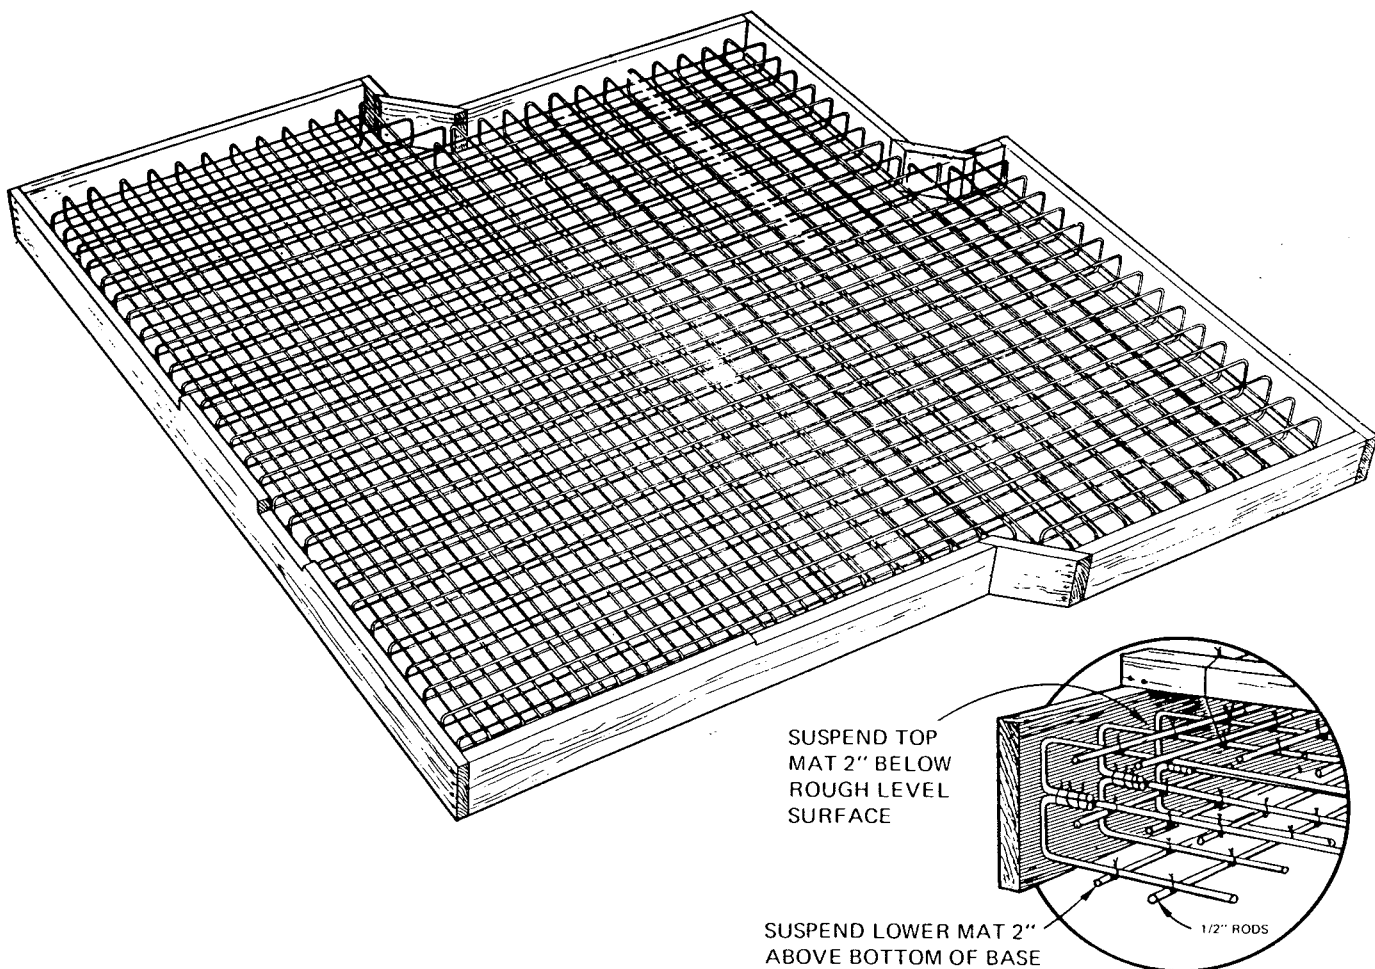
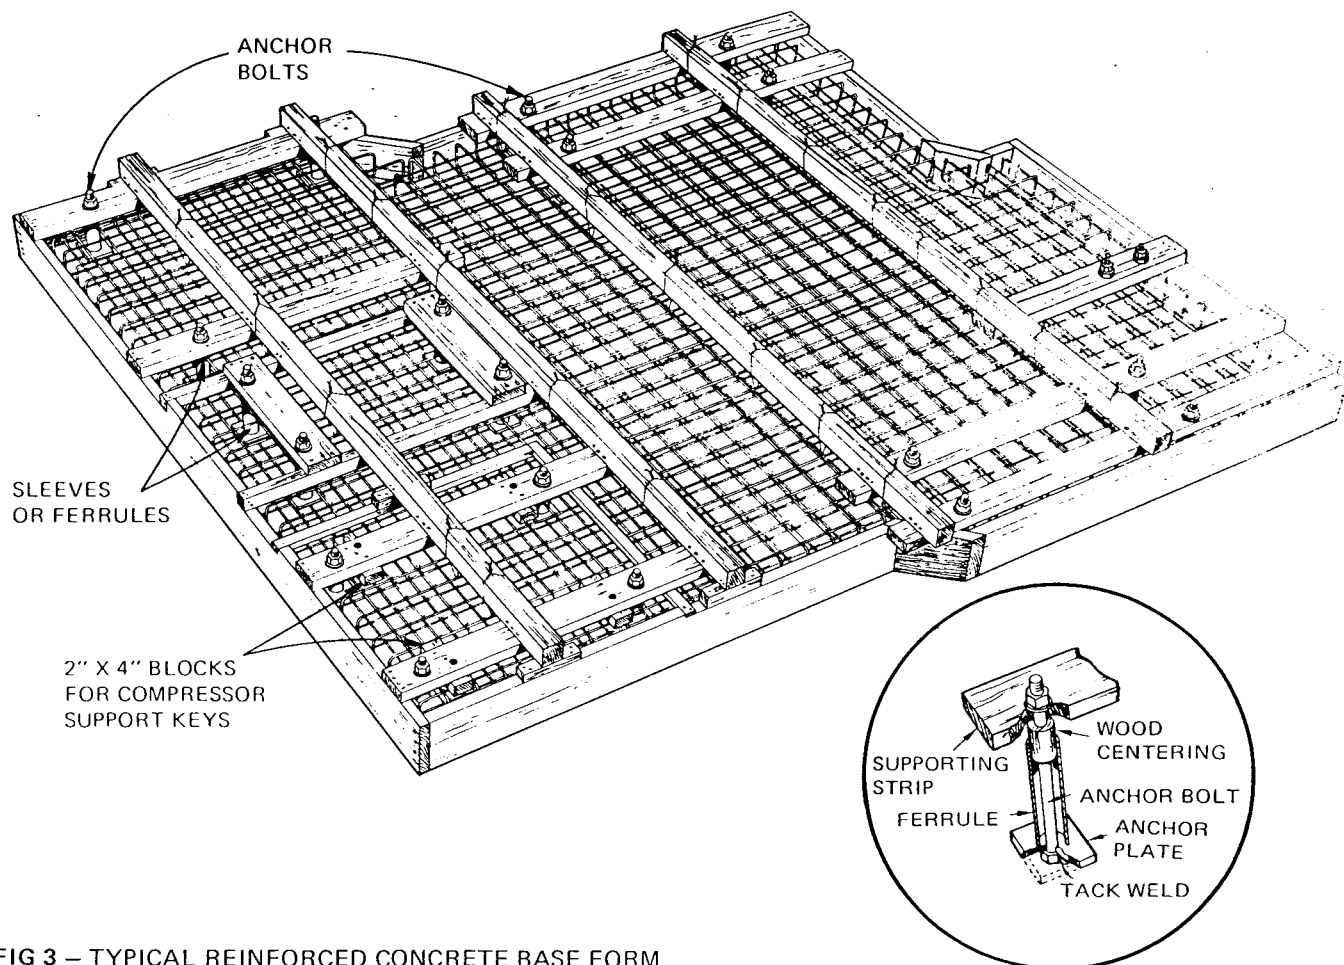

FIG 2 – TYPICAL STEEL REINFORCING ROD ARRANGEMENT (Design By Others)
FIG 3 – TYPICAL REINFORCED CONCRETE BASE FORM
2. Build and set the wooden form required to pour the concrete base in accordance with the certified drawings. The inside length and width of the form should be the same as the outside length and width of the finished base. The height of the form should extend up to the grout line. Fig. 2 shows a typical form for a reinforced concrete base.
3. Make up and suspend mats of reinforced rods in accordance with the certified drawings. The rods are to be spaced 6" apart and at right angles to each other. The ends of the lower mat are to be turned up and back to join the top mat per Fig. 2 detail, the rods must be wired together at each crossing and joint to prevent them from moving when the concrete is poured. Refer to Fig. 3, position the reinforcing rod mats as indicated on the
4. Refer to Fig. 3, attach a 2" x 4" block to each end of the strips which support the anchor bolts for the compressor. These blocks should be located under the compressor foot bolt locations to provide cavities in the concrete base for the angles which are welded to the bottom of the compressor supports. The blocks for these cavities should extend 2" beyond the width of the compressor supports, on each side, so that the supports do not cover the entire cavity. This provides an open hole at each side of the compressor supports through which to pour grout around the angles after the compressor is properly located on the rough level of the concrete base.
5. Make up the required number of properly sized sleeves, or ferrules, and accurately locate and suspend the anchor bolts in accordance with the certified drawings. The supporting strips for the anchor bolts should be fastened across the top of the wooden form as shown by Fig. 3. After the anchor bolts are suspended, recheck their locations with the certified drawings. Check all dimensions
NOTE: The ferrules should be sized and located so that the top of each ferrule is flush with, or slightly above, the surface of the rough level so that concrete does not enter the ferrules. The ferrules must be blocked with a wooden centering plug so that the anchor bolts are centered within the ferrule when the concrete is poured. (See Fig. 3, Detail). This permits some movement of the anchor bolts for final alignment. After final alignment has been obtained, the grout should flow into the ferrules and lock the anchor bolts in position.